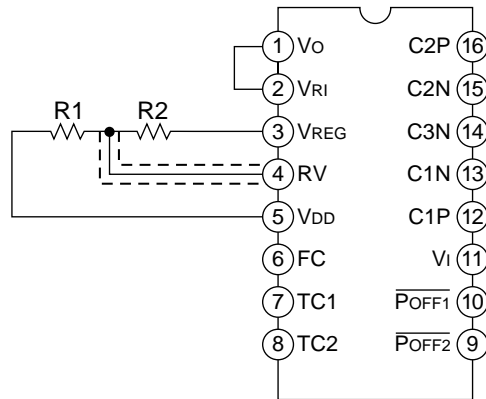

Figure 2.5 VREG setup and mounting notes
The voltage regulator circuit regulates a voltage entered in the VRI pin and can output any voltage. It uses the series voltage regulation. As shown in Figure 2.5, the VRI and VO pins must be short-circuited by a jumper as short as possible except for larger time boosting by using external diodes.
- The regulation voltage adjustment input (pin RV) has the very high input impedance, and its noise insertion can drop the regulator stability. As shown in Figure 2.5, shield the cable between the division resistor and RV pin or use a cable as short as possible between them.